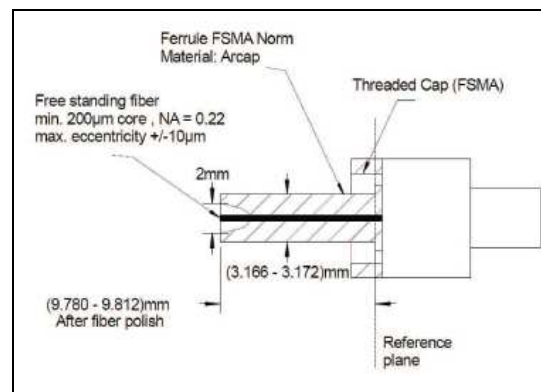

Figure 2: Drawing of the SMA connector
- a) Optical fibre multi mode SMA905 core 200 μ m diameter, and 220, 240 or 280 μ m cladding or larger. The fibre centricity should < +/-10 μ m. The fiber connector should be designed as shown in Fig. 2. Reference: A.R.T. Photonics, Germany or Richard Losch, USA. Fibre microscope to inspect the facet of the optical fibre / Reference: Laser 2000, Germany or Roithner Lasertechnik, Austria.